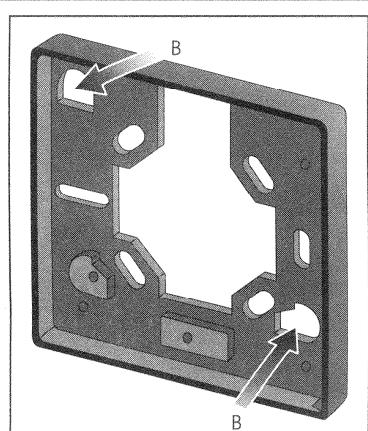

fig.3
- Sub-base fitting = cod. 004095 (fig.3)